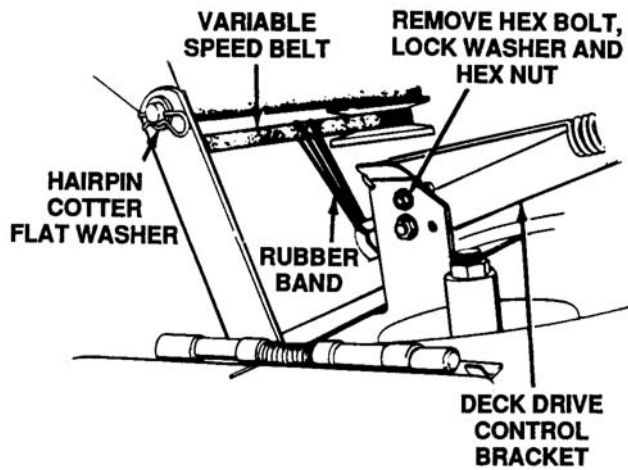

Figure 12-26. Location of Deck Drive Control Bracket
5. Remove the hex bolt, lock washer and hex nut from the top hole in the deck engagement bracket. See Figure 12-26.